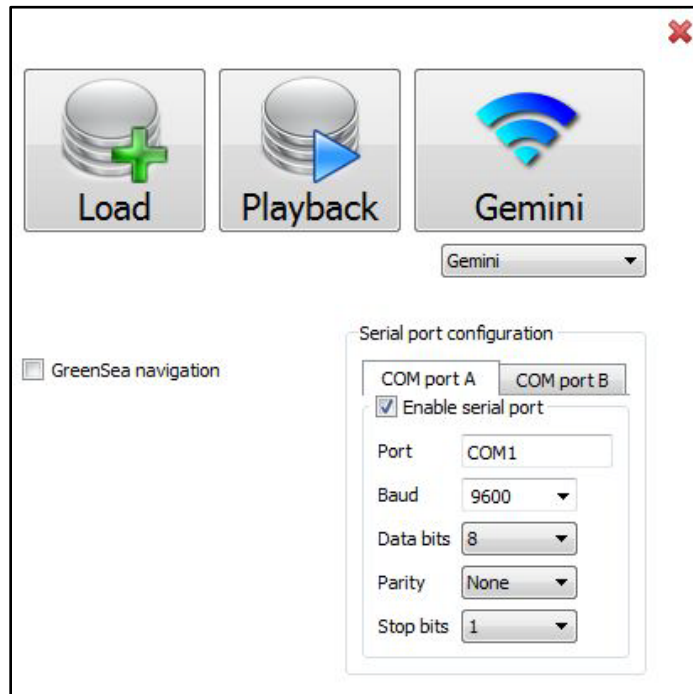

Figure 32. Gemini Interfacing
4. Pick **Gemini** from the dropdown menu (Figure 32).